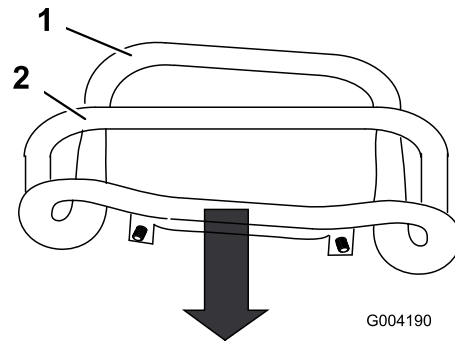

Figure 53
3. Pull back the traction control so that the front of the control contacts the reference bar (Figure 53).